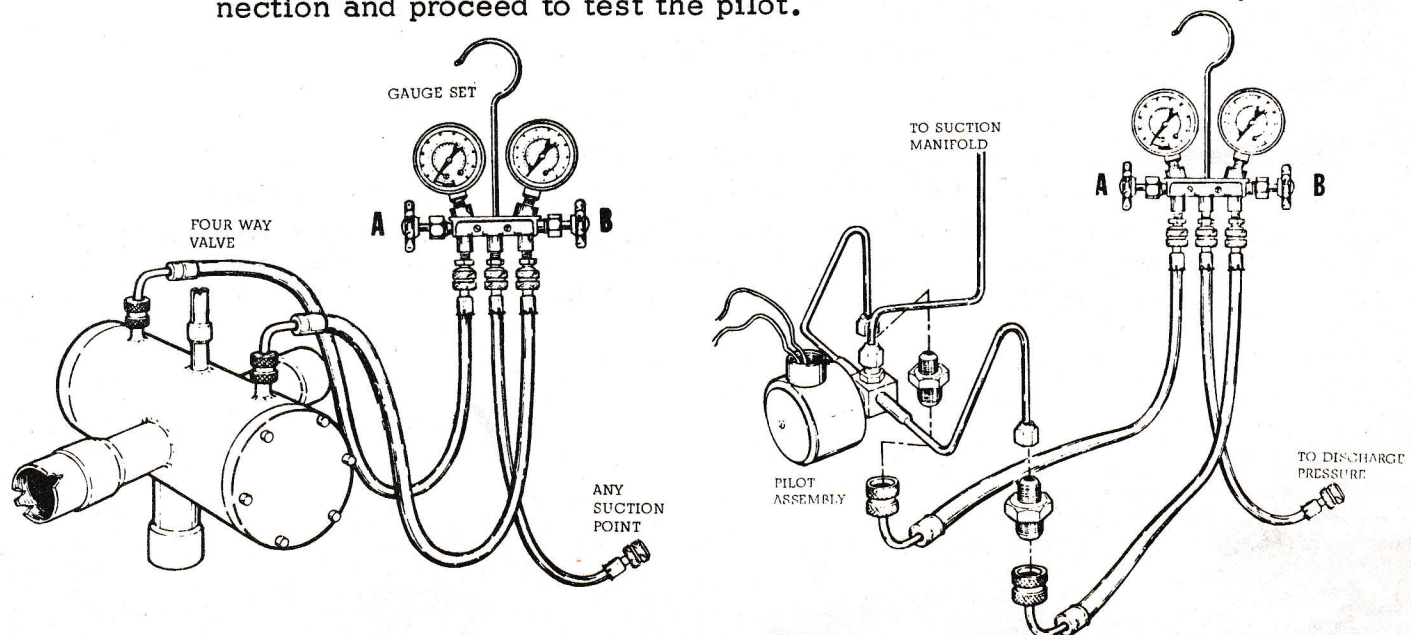

Figure IX-12
2. Referring to the pilot assembly in Figure IX-12, connect the gauges to the 1/4 inch flare nuts of the pilot assembly tubing.